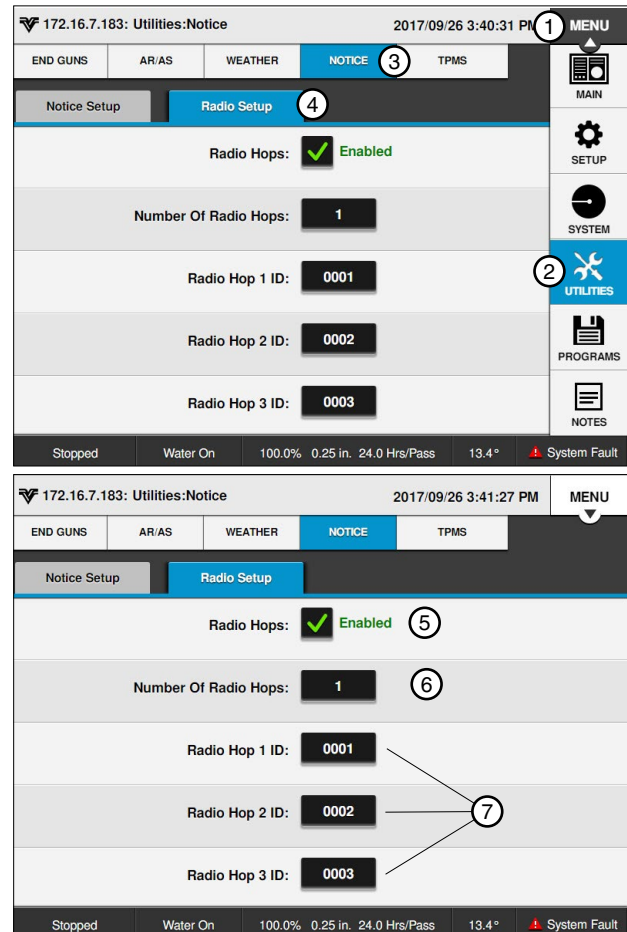

Figure 80-1 1. Menu 2. Utilities 3. Notice 4. Radio Setup 5. Radio Hops Checkbox 6. Number of Radio Hops 7. Radio Hop IDs
The Number of Radio Hops drop-down menu is used to setup the number of Radio Hops. Refer to Figure 80-1.
Use Radio Hop ID fields to setup the intermediate unit ID to be used by the control panel. Refer to Figure 80-1.
1. Push **Menu**, **Utilities**, **Notice**, and **Radio Setup** to display the Radio Setup screen. Refer to Figure 80-1.